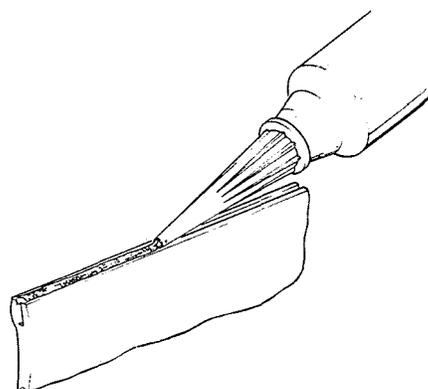

Figure 25. Apply Adhesive
5.15 Apply KB-S1 to the grooved edge of the split sleeve (Figure 25). Using the additional sealing clamps furnished with split sleeve, close the seam and slide the sleeve into the end cap.
7.09 Apply one continuous bead of adhesive onto each groove. (Figure 25)